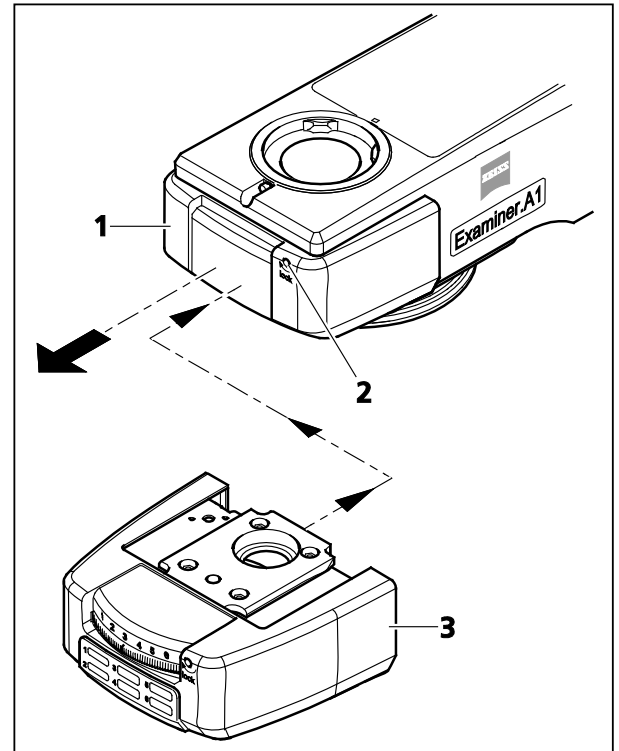

Figure 3-8 Installing a reflector insert
- Insert the ball head screwdriver (width A/F 3 mm) into the borehole (Figure 3-8/2), turn the locking screw counterclockwise until it reaches its stop, and pull off the closing cap (Figure 3-8/1) toward the front side.
- Slide the reflector insert (Figure 3-8/3) equipped with reflector modules, e.g., reflector turret 6x, up to its stop into the stand top part, keep it pressed on, and tighten the locking screw clockwise.